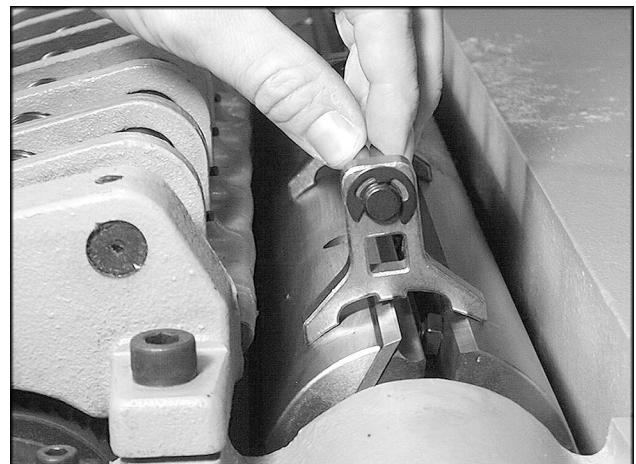

FIGURE 8
5. Carefully place the knife-setting gauge until it contacts the cutterhead, as shown in Figure 8. This will hold the high point of the knives to the proper height above the cutterhead (approximately 1/8" or 3.18mm). Use the gauge at both ends of the knife, then check the center section to be sure it is even. If it is low, try backing off slightly on the center gib screw to allow blade to come up. Gently tap blade down with piece of wood until it conforms to the gauge height. Recheck the full length of the knife.